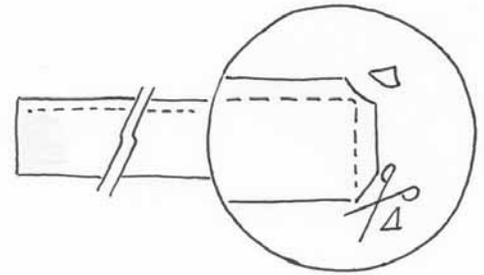

Figure 25
- D. Sew along the pin line as shown in **Figure 25**. Be sure to sew only along the two pinned edges.
- E. Cut and sear the four corners as shown in **Figure 25**.